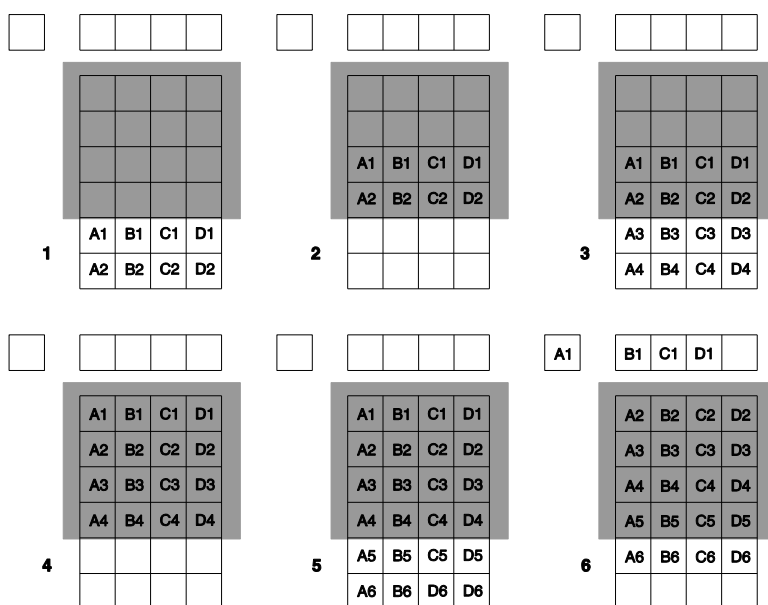

Figure 32. Kinetics Readout
Below is a simplified illustration of kinetics mode. Returning to our  $4 \times 6$  CCD example, in this case  $2/3$  of the array is masked, either mechanically or optically. The shutter opens to expose a  $4 \times 2$  region. While the shutter remains open, charge is quickly shifted just under the mask, and the exposure is repeated. After a third image is collected the shutter is closed and the CCD is read out. Since the CCD can be read out slowly, very high dynamic range is achieved. Shifting and readout are shown in Figure 32.
**Example:** Referring to the readout shown in Figure 32, there are 6 pixels perpendicular to the shift register and the Window Size is 2 pixels high. The number of frames is 3. If the Vertical Shift rate for the CCD is 1600 ns/row, the Shift time will be 3200 ns per frame.